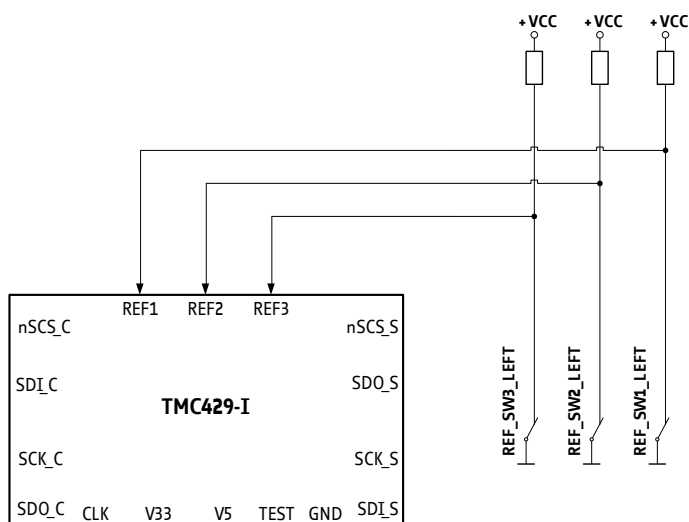
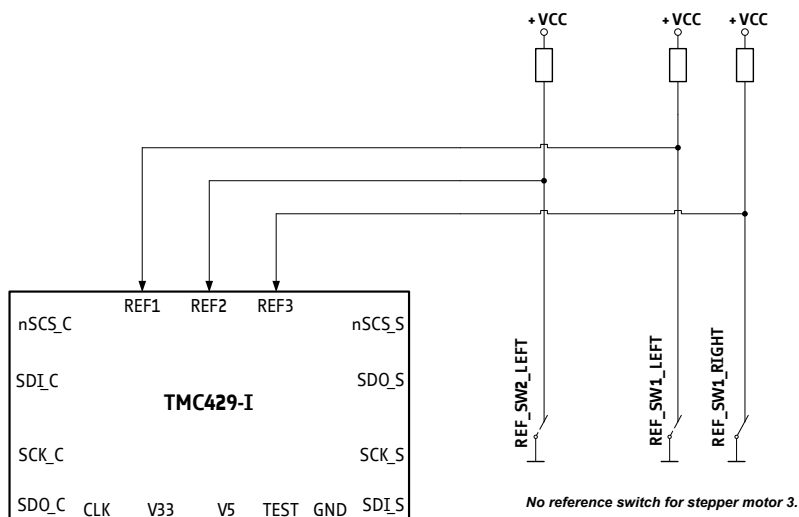

Figure 9.2 Reference switch configuration *left-side-only* for *mot1r*=0 (and *refmux*=0)
Figure 9.3 Reference switch configuration *two-one-zero* for *mot1r*=1 (and *refmux*=0)
- After power-on-reset, the default setting (*refmux*=0 and *mot1r*=0) selects the basic single reference switch configuration as outlined in Figure 9.2.
The TMC429-I offers three reference switch inputs, which can be used *left-side-only* or *two-one-zero* as shown in Figure 9.2 and in Figure 9.3.
If *mot1r* is set to 1 the input REF1 is also associated with the left reference switch of stepper motor #1. REF2 is also associated to the left reference switch of stepper motor #2. But, the input REF3 is associated to the *right reference switch* of stepper motor #1 and no reference switch input is associated to stepper motor number #3 (see Figure 9.3)